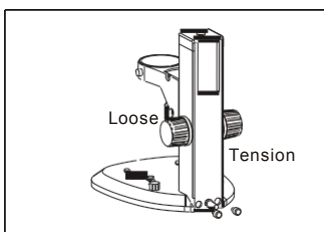

Fig.2
- (1) If you want to adjust tightness of the focusing arm, you can hold one of the focusing knobs and turn another one to attain a suitable tightness. The degree of tightness relies on the direction to be turned. The reverse direction is tight, otherwise, is loose.
- (2)The suitable position of tightness can make the adjustment more comfortable and prevent the focusing bracket from slipping down by its weight during the observation. (Fig.2)